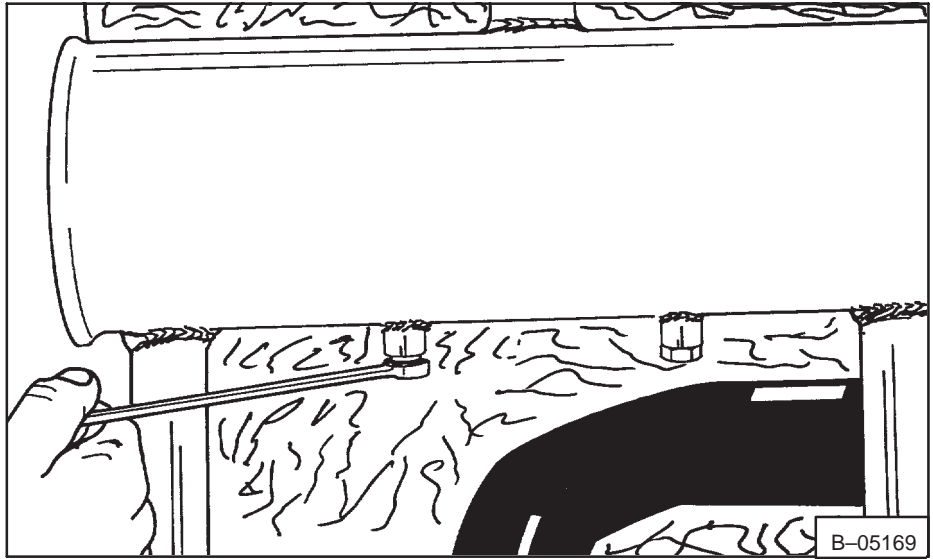
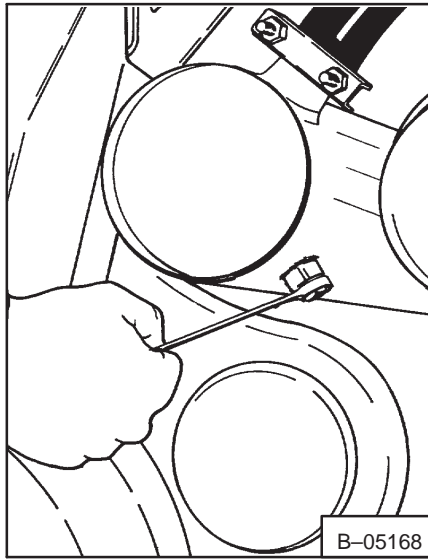

Fig. 1-40 Muffler Plug Location (540)
Fig. 1-41 Muffler Plug Location (543)
- Remove the plug(s) at the bottom of the muffler (540 – Fig. 1-40) (543 – Fig. 1-41).